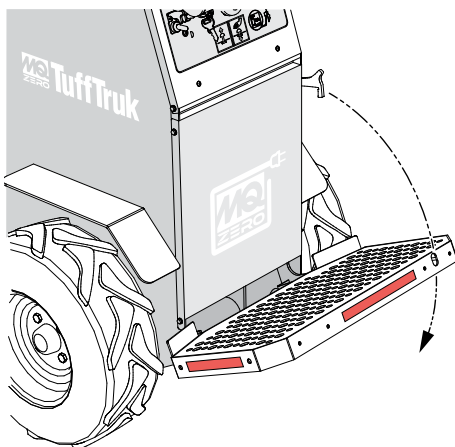

Figure 6. Lowering Operator Platform
1. Pull out the operator platform from the stowed position to the stand-on position (Figure 6).